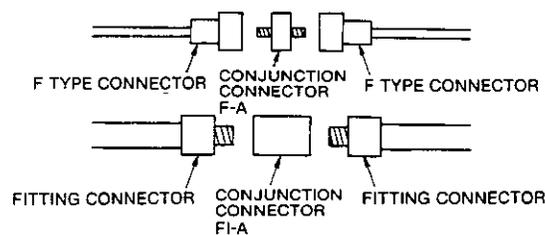

Fig. 2.4 Connection between Coaxial Cables
- (3) When extending coaxial cables, connect one coaxial cable to another with conjunction connector as shown in Fig. 2.4.